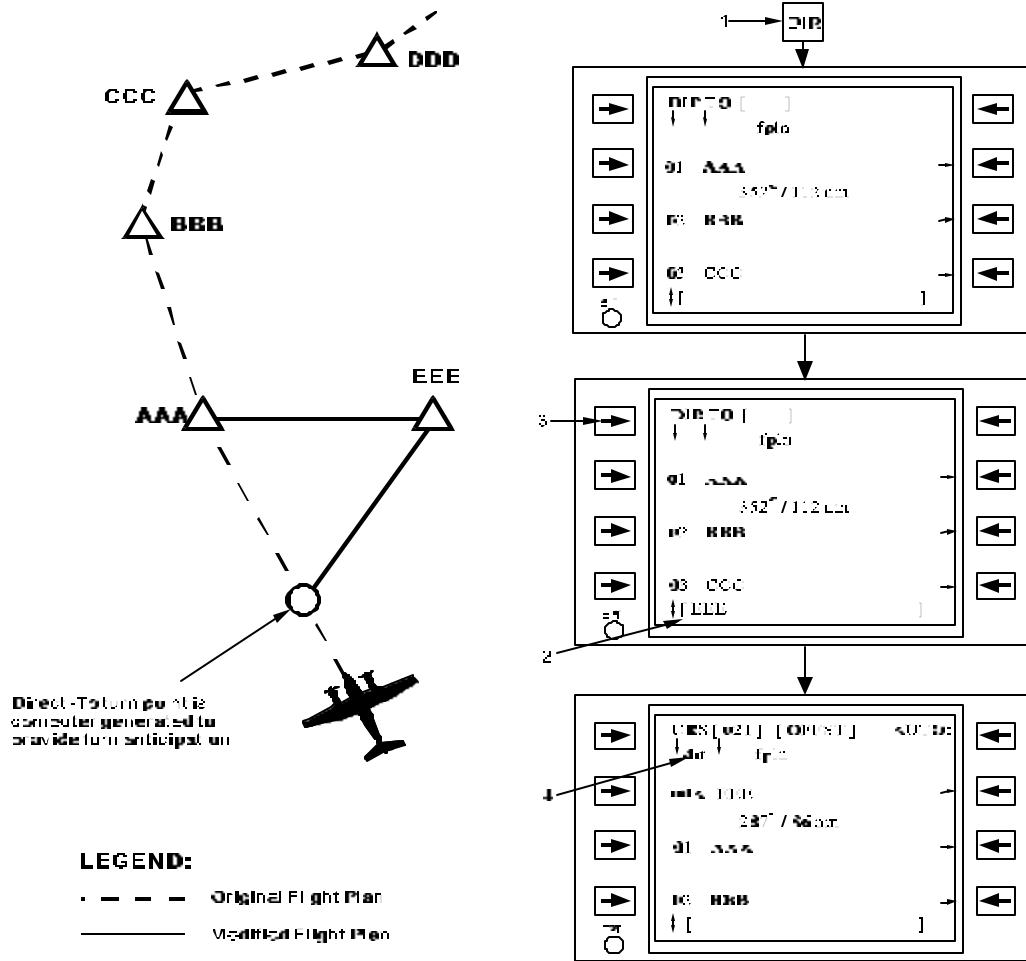

Figure 3B-42. Direct-To an Impromptu Waypoint
(4) *Direct-To Impromptu Waypoints.* Impromptu waypoints may be inserted into the flight plan interrupting execution of the current flight plan leg. The impromptu point may be any valid waypoint format. Refer to Figure 3B-42 and Table 3B-33 and Figure 3B-43 and Table 3B-34 for an illustration of the two methods of executing Direct-To operations to impromptu waypoints. When performing a Direct-To the scratchpad waypoint, the active waypoint will be